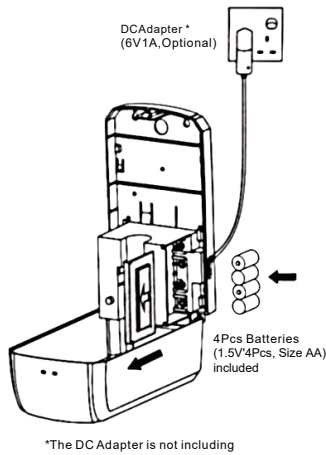

figure 2
3. According to (Figure 2) shown, slide open the battery cover in the direction of the arrow, install four batteries (1.5V Type AA), close the battery cover.